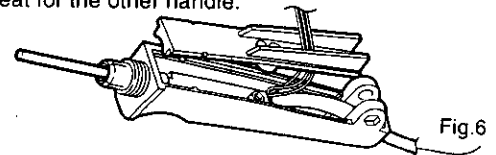

Fig.6
- Install the handle cover; insert and tighten the tapping screw. Route wires as shown in Figure 6.